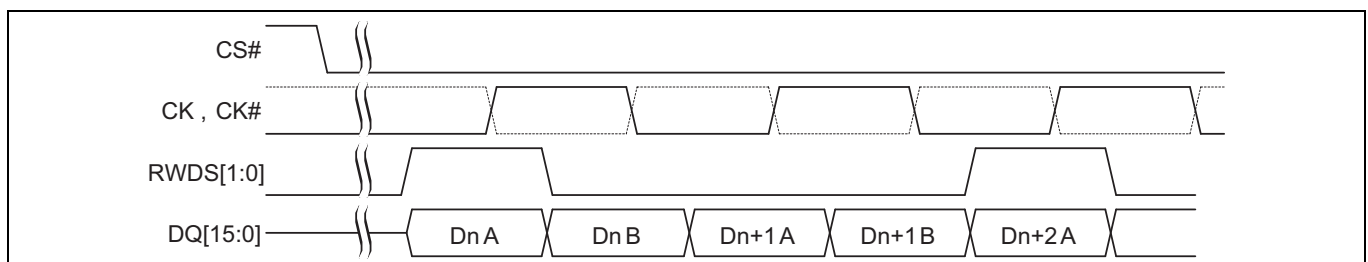

Figure 8 Data placement during a write transaction^[12-20]
17. **Figure 8** shows a portion of a write transaction on the HYPERBUS™ extended-IO.